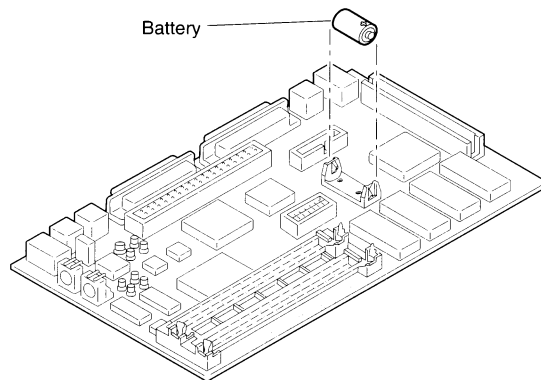

Figure 6 Battery Replacement
2. Grasp the old battery and pull it from the battery holder (Figure 6).